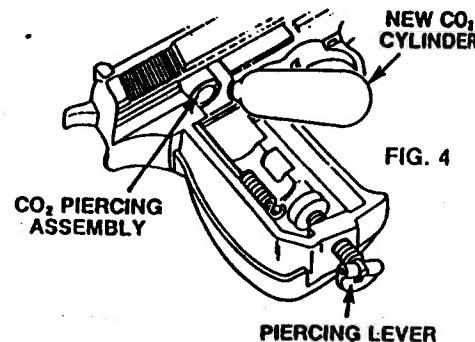

FIG. 4
- Insert the new CO₂ cylinder into the pistol with the small neck of the cylinder pointing toward the piercing assembly. (Fig. 4)